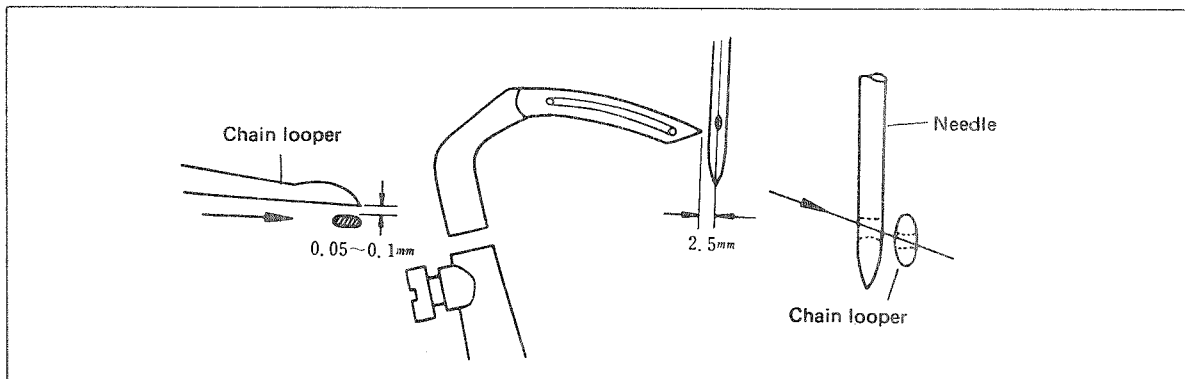

Fig. 19
- c) The stroke of the chain looper must be 2.5 mm (3/32") as shown in Fig. 19. Make sure that, when the looper has moved forwards, the looper thread hole is aligned with the needle eye when looking down sideways as shown in Fig. 19.